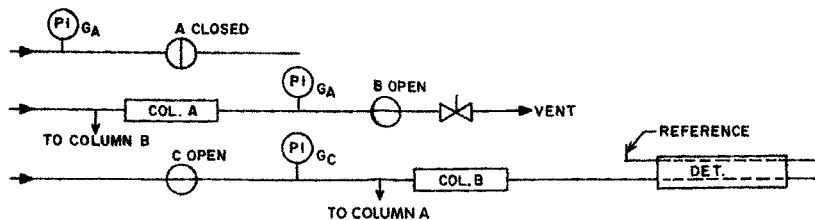
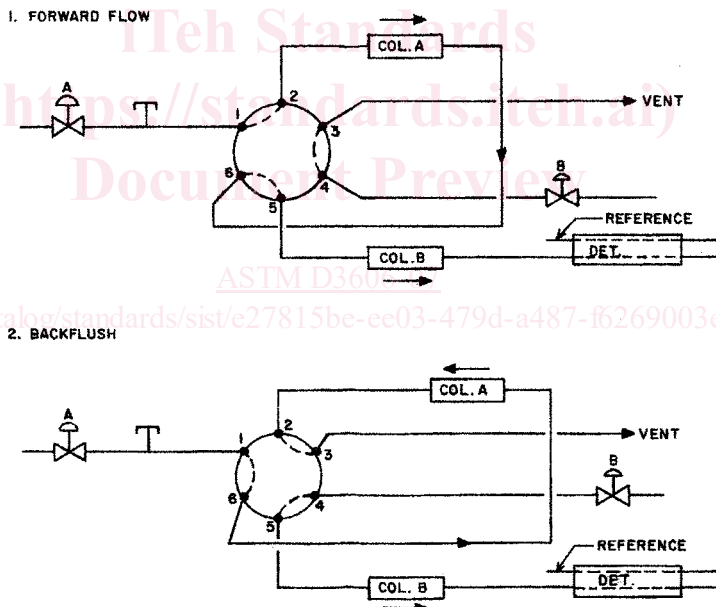

FIG. 1 Pressure Backflush
FIG. 2 Valve Backflush
5.1 *Chromatograph*—Any chromatographic instrument that has a backflush system and thermal conductivity detector, and that can be operated at the conditions given in Table 1, can be employed. Two backflush systems are shown. Fig. 1 is a pressure system and Fig. 2 is a switching valve system. Either one can be used.